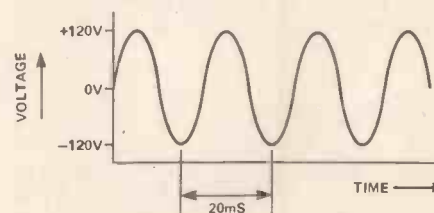
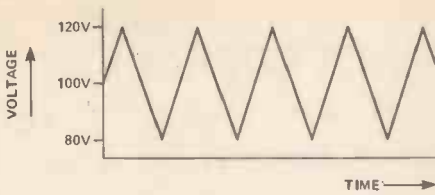
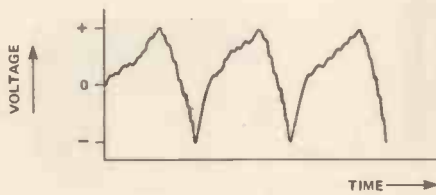

Figure 9. A graph of the voltage obtained from the mains supply. This is an alternating current (AC) voltage with a frequency of 50Hz.
Figure 10. A triangular AC voltage of 40V, with a DC bias of 100V added to it.
Figure 11. A 'piano-wave' AC voltage. It's the shape of the waveform which makes it sound like a piano.
But there is another type of current called Alternating Current (AC). A typical form of AC is that supplied on the national grid electric system, ie that used in house electric systems. The graph of the house electric EMF would be similar to that in Figure 9.
The sort of voltage used in mains electricity supplies has a 'smooth' alternation of the style shown in Figure 9 and is known as a sinewave voltage. There are other types, as you might expect, and they don't always oscillate around 0V: sometimes an AC voltage can have a DC component in them and could, for example, oscillate around 100V, as in Figure 10. Here you can see a triangular shaped waveform of 40V peak to peak (ie from top to bottom), but oscillating around 100V, so that we say that the waveform has a DC bias of 100V. There are obviously thousands of possibilities, many of which we'll explore in the months to come.
The sound we hear is caused by minute differences in pressure being transmitted through the air. Our ears detect these air pressure variations and change them into signals which the brain can respond to, so we know that one sound is the sound of breaking glass, or another is a piano playing, for example. Now if we had a device which could change the air pressure variations which correspond to a sound into electrical signals, we could then plot a graph, which could be something like those in Figures 9 and 10. The device does exist, by the way, and is called a microphone. If we plotted the graphs for different sounds, we would then find that each sound produces a distinctive graph. Take, for example, a single piano note: its waveform might look a bit like that in Figure 11.